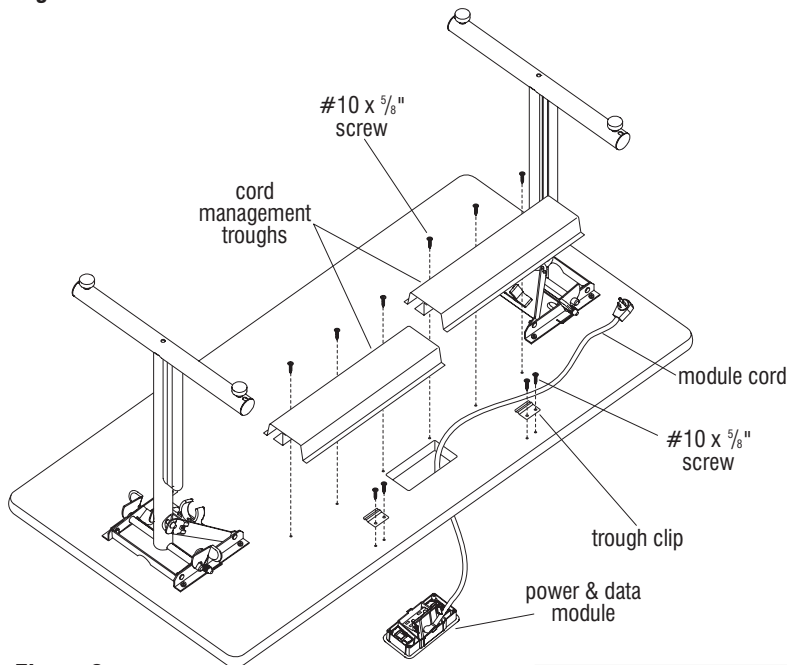

Figure 2
1. Position the table top upside down on a soft protective surface. For tables with the Folding Base, fold out the table legs by unsnapping each leg from the leg holder on the base. Then lift the table leg up 90°, making sure that the base locks securely into place by pressing down on the leg such that it engages the leg lock (Figure 2).
2. Carefully tip table up on edge. Position the power & data module over the topside as shown in figure 2. From the topside, route the module cord through the module hole and snap the power & data module into place. Be sure that the module is closed (by pressing in on the "stars" in the module) and carefully set the table upside down again onto a soft protective surface.
3. Position trough clips over the pre-drilled holes in the table top and secure with two #10 x $\frac{3}{8}$ " screws per clip, not to exceed 25 in/lbs of torque (Figure 2).
4. Position the mounting holes of both cord management troughs over the pre-drilled holes in the table. Secure the troughs to the table top with #10 x $\frac{5}{8}$ " screws (Figure 2), not to exceed 25 in/lbs of torque. **Do not over tighten screws.**
5. Route the module cord and/or optional data lines through either end of the cord management troughs (Figure 2). If the cord is to be routed the opposite direction that it comes out of the module, make a 6" loop with the cord to change direction (Detail A).
6. Slide the flange of each cord management trough under the trough clips to secure each trough to the table (Figure 2).